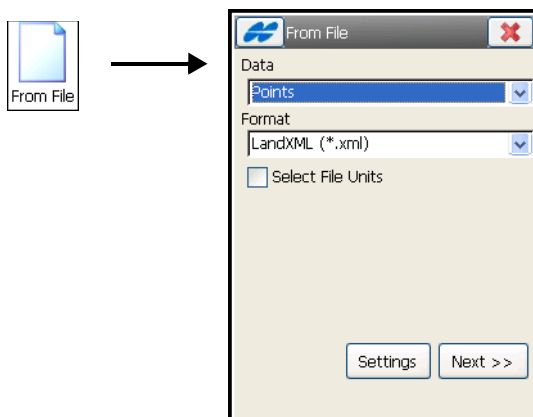

Figure 5-16. Import From File
To import data from a file, tap the *From File* icon (Figure 5-16). On the **From File** screen (Figure 5-16) you can import data of various types from files of either pre-defined or custom formats. For a description of these formats, see Appendix A.
- The ok  button saves the settings and returns to the **From File** screen (Figure 5-16 on page 5-14).
On the **From File** screen (Figure 5-16 on page 5-14) for *Points* and *Point Lists* data, you can import the following formats: *Topcon Text Custom (\*.txt)*, *Topcon FC-4 (\*.fc4)*, *Topcon FC-5 (\*.fc5)*, *Topcon GTS210/310/10 (\*.xyz)*, *Topcon GTS-6 (\*.gts6)*, *Topcon FC-6/GTS-7 (\*.pnt)*, *Topcon GTS-7 with strings (\*.txt)*, *Topcon GT (\*.pnt)*, *Topcon GT Finland (\*.gt)*, *Topcon 3DMC (\*.pt3)*, *Topcon 3DMC Project (\*.tp3)*, *AutoCAD DXF (\*.dxf)*, *AutoCAD 2000 Drawing (\*.dwg)*, *ESRI Shape (\*.shp)*, *TDS (\*.cr5)*, *LandXML (\*.xml)*, *MOSS GENIO (\*.mgn)*, *NEZ (\*.csv)*, *NEZ with strings (\*.csv)*, *CMM (\*.cor)*, *MMH360 (\*.360)*, *KOF (\*.kof)*, *MMH360\_Z000 (\*.360)*, *Microstation 95/ISFF (\*.dgn)*, *MicroStation V8 (\*.dgn)*, *SBG Pxy (\*.PXY)*, *SBG Geo (\*.Geo)*, or *Sokkia SDR33 (\*.sdr)*.